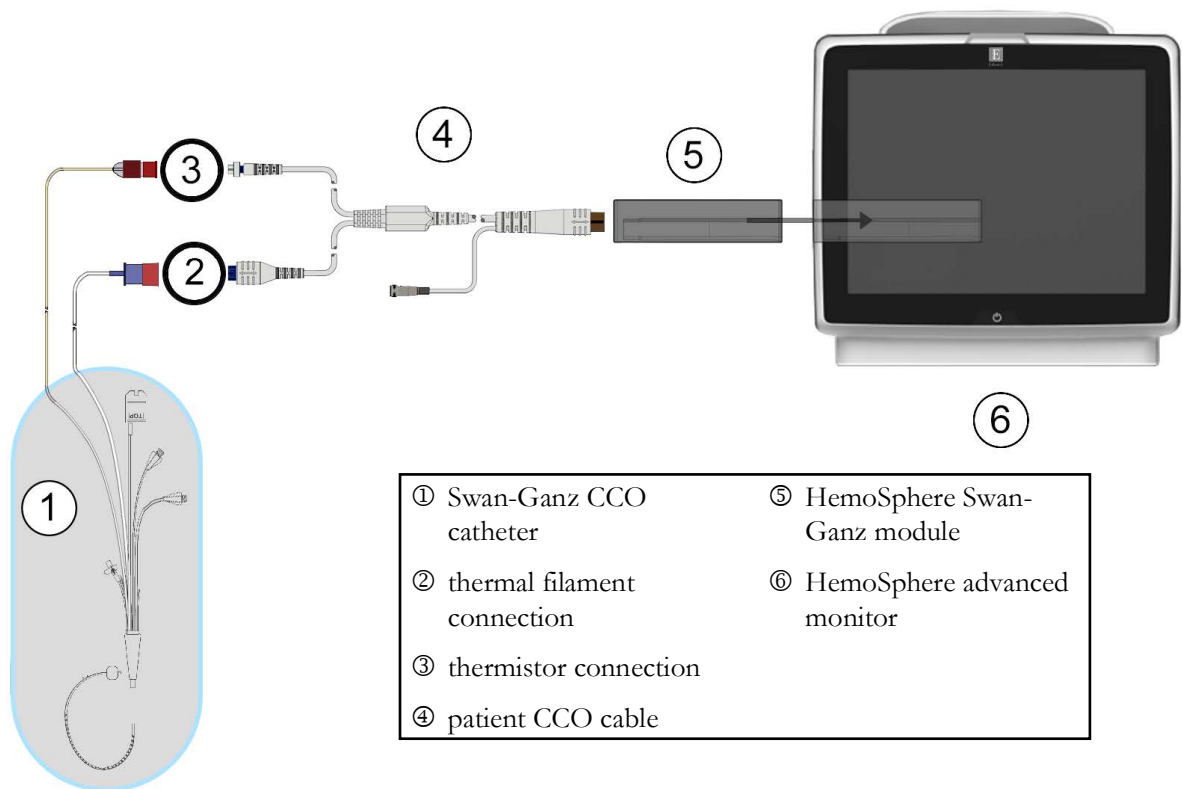

Figure 9-4 CO connection overview
- 2 Attach the catheter end of the patient cable to the thermistor and thermal filament connectors on the Swan-Ganz CCO catheter. These connections are emphasized as numbers ② and ③ in figure 9-4 on page 171.